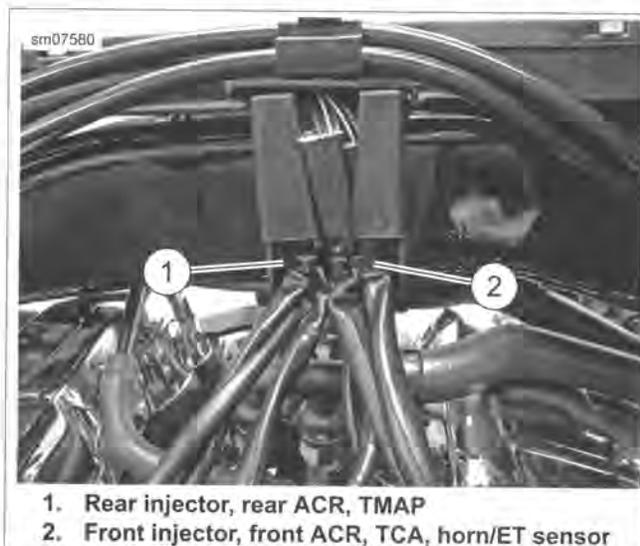

Figure 7-99. Breakout Harnesses
5. See Figure 7-99. Secure rear fuel injector, rear ACR and TMAP sensor breakout harnesses in the rear of the breakout compartment with a **new** cable strap but do not tighten.